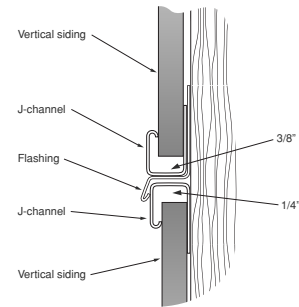

Fig.1
**Special note for vertical panel installation:** Vertical panels should be cut to allow clearance as specified. Panels should be positioned on wall allowing equal clearance top and bottom. One fastener should be placed at the top of a nail slot within the upper 12" of the panel when installed. The panel will hang on this fastener and will expand in both directions rather than only upward. Balance of fastening should take place in the center of the nailing slots (Fig. 1).